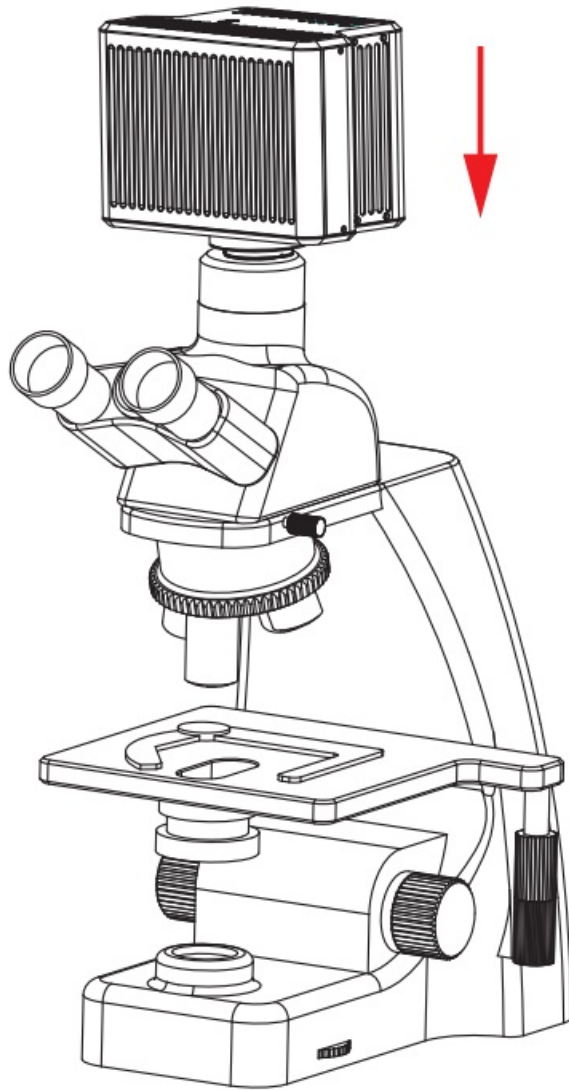

Figure 2
2. Snap the 5G WiFi multi-viewing workstation camera onto the dovetail slot or screw it onto the standard C -mount of the microscope, oriented as in Figure 2; tighten the fastening screws on the dovetail slot of the microscope, fix the camera on the microscope.